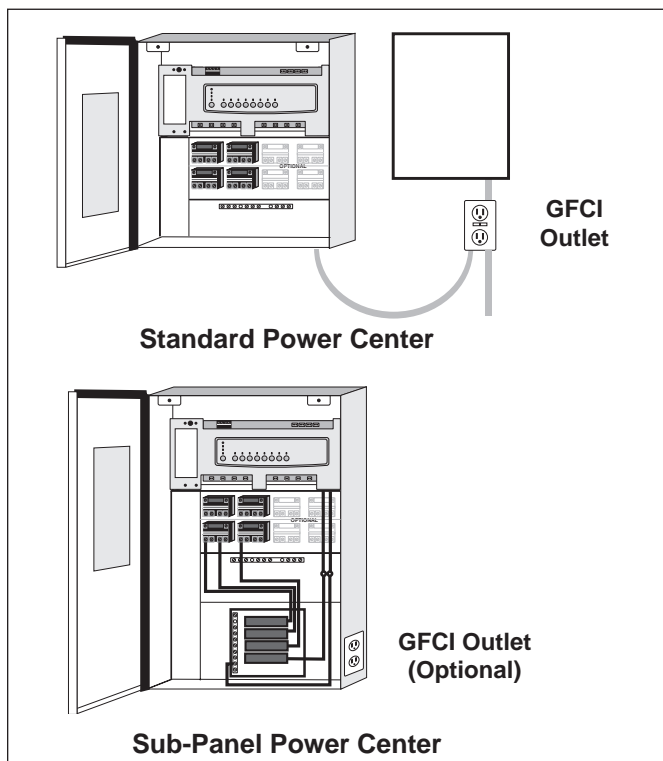

Figure 4. GFCI Installation for Underwater Lighting
1. For a Standard Power Center, install a GFCI receptacle next to the breaker panel. For a Sub-Panel Power Center install a GFCI receptacle in the Power Center (use the knockout provided on the right side of the Sub-Panel Power Center). See Figure 4.